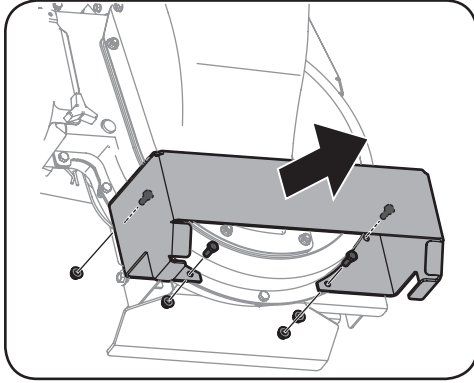

Figure 5-6
4. Remove the front wheel bracket by loosening the four flange nuts (and hex bolts). Retain hardware. See Figure 5-6.